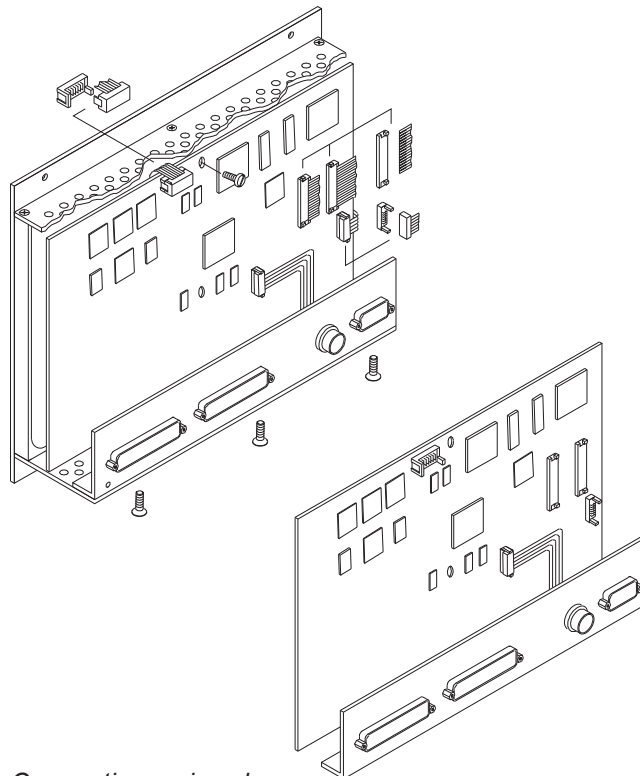

Fig. 8-21: Connecting main pcb
13. Place main pcb and connecting panel carefully inside the frame. Adjust position of pcb and flat cables and reconnect flat cables (fig. 8-21).
14. Fix main pcb with screws. Be sure not to damage the flat cables. Install and fix connector panel with three screws (fig. 8-21).